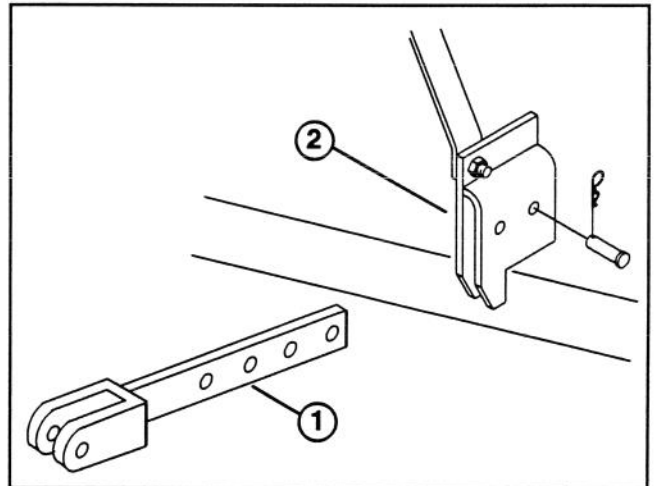

Figure 7
1. Remove clevis pins and hair pin cotters securing lower hitch lugs to front deck brackets (Fig. 7). Remove hitch lugs but retain clevis pins and hair pin cotters.